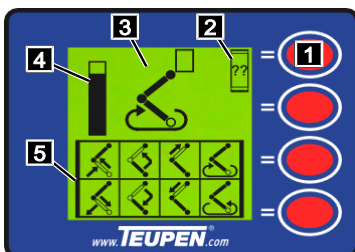

Fig. 77
In platform function operating mode, the movements currently available to be activated with the operating levers are shown with the lower 8 pictograms (Fig.77/5). When the limit stop for a platform function is reached, a large pictogram (Fig.77/3) is shown for the limited movement. A bar graph (Fig.77/4) also shows the remaining clearance to the limit stop.
An message symbol (Fig.77/2) appears when an illegal movement is selected.
1. Call up the respective message using the [function key] (Fig.77/1).